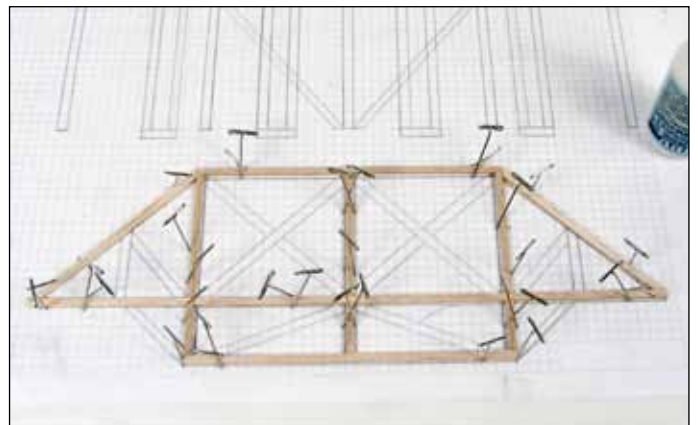

Figure 23 – Building the outline of the bridge side
4. Glue the pieces in place. Surfaces where strips connect should be coated with a thin film of glue. Use pins to hold the pieces flat (Figure 23).